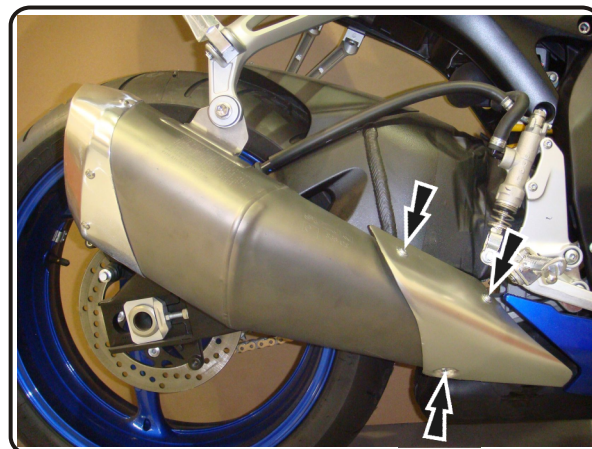

Fig. 1
- 1 Remove the stock muffler heatshield (see Fig. 1 for bolt locations).